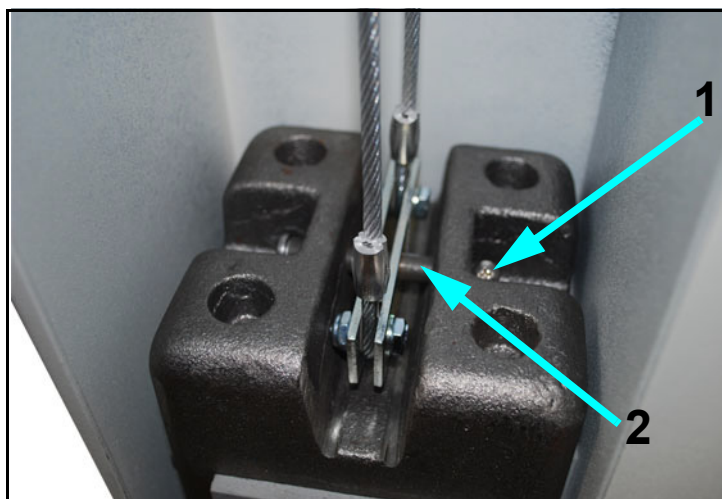

Figure 2-7. Clevis Pin
- 7 Insert screw (1) into the Clevis Pin (2 in Figure 2-7) and secure properly.